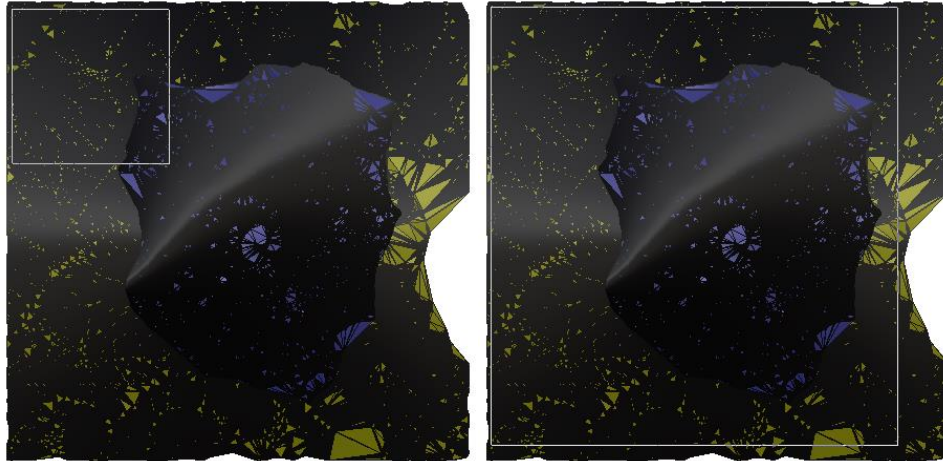

Figure 151: Draping the surface.
1. In **Top** view, select **Surface|Drape**. Click somewhere at the **top, left** of the mesh, then **drag** the mouse towards **lower left** corner of the window drawing a **rectangle** as large as possible while still contained **within** the mesh (Figure 151).